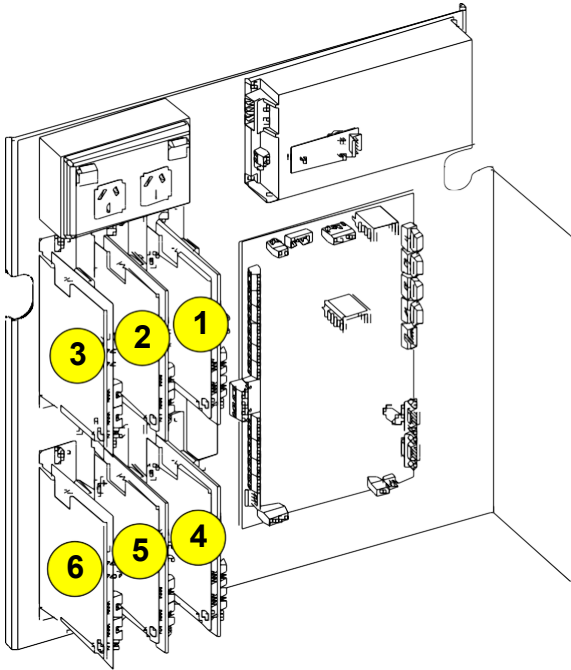

Figure 3a – Bracket Locations
- On the bracket on the gear plate – see Figure 3a. This is the recommended method if the gear plate is suitable.
Choose the next bracket position using Figure 3a as a guide. Fit one of the M4 screws from the kit in the top fastening point but do not tighten it. Remove the Loop Card and bracket assembly from its ESD protection and hang it on this screw using the "keyhole" mounting hole in the rear of bracket. Fit the other M4 screw in the bottom fastening point and tighten both screws.